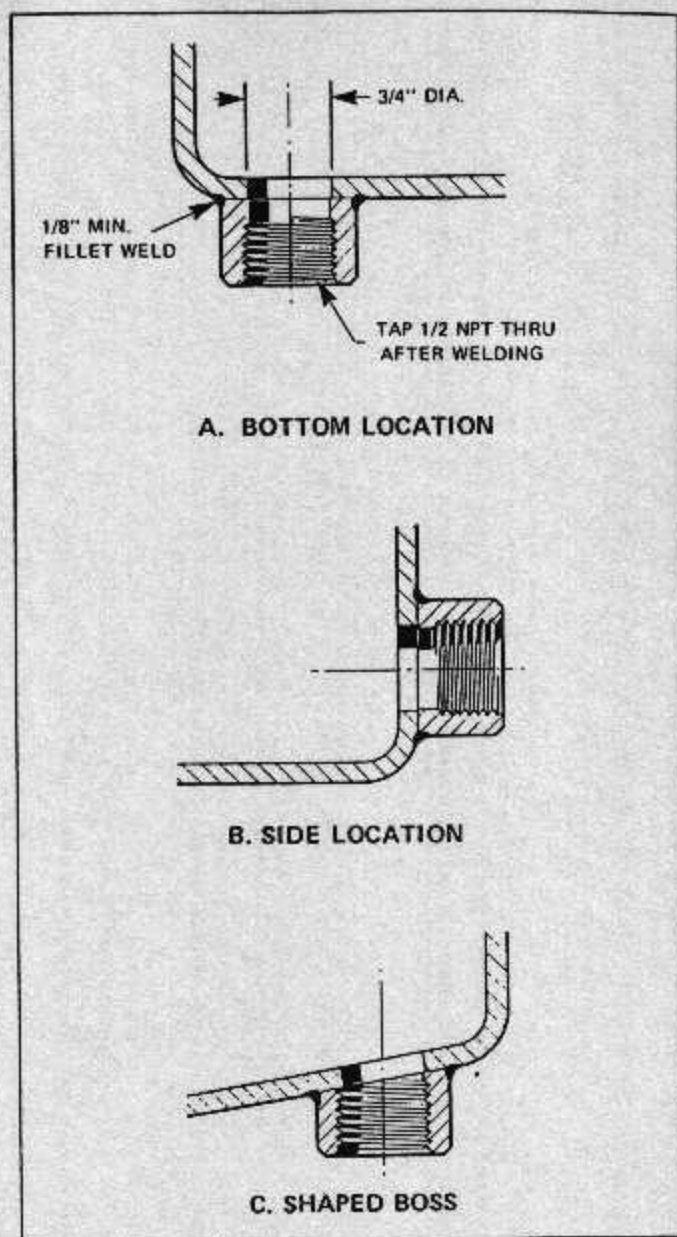

Figure 2-9. Weld Boss Installation
2. For systems requiring the installation of Christen 812 Weld Bosses, remove the sump. Locate suitable boss positions as shown in the sump modification illustrations, Figures 2-3 through 2-8, and drill 3/4-inch hole for each boss. The Weld Bosses are attached as shown in Figure 2-9, using the AA4043 (5% silicon aluminum alloy) rods supplied. Shaping of the base of the Weld Boss may be required to provide a snug fit against the surface of the sump.